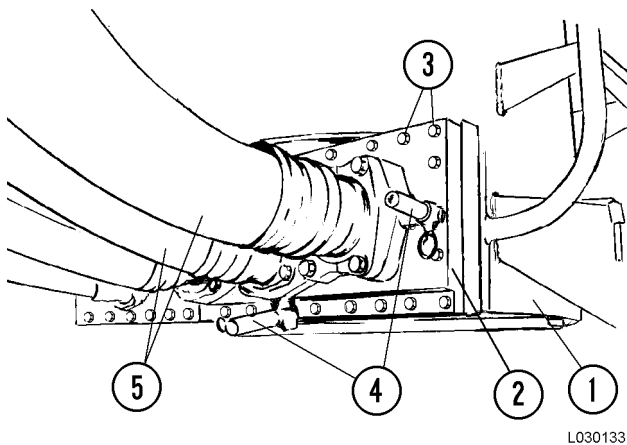

FIGURE 3-19. STRAINER REMOVAL
3. Disconnect pump suction hoses. (5, Figure 3-19).
4. Remove capscrews and lockwashers (3) that secure cover (2) to the hydraulic tank. Remove and discard the gasket.
2. Using a new cover gasket, move cover (2, Figure 3-19) into position and install capscrews and lockwashers (3). Tighten the capscrews to standard torque.
5. Open both suction line shutoff valves (4). Loosen the capscrews (at the pump) on the suction hoses to bleed any trapped air. Then loosen the capscrews (at the pump) on the pressure hoses to bleed any trapped air. Tighten all capscrews securely.